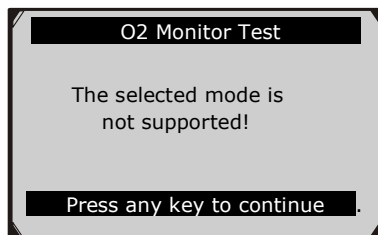

Figure 6-24
- If the vehicle does not support the mode, an advisory message will be displayed on the screen. (Figure 6-24)